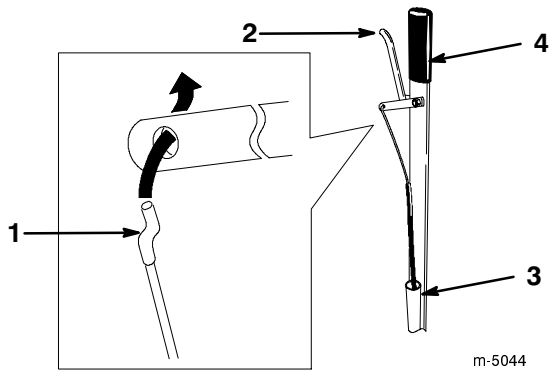

Figure 9
7. Connect the Z-fitting on the end of the cable to the release lever (Fig. 9).